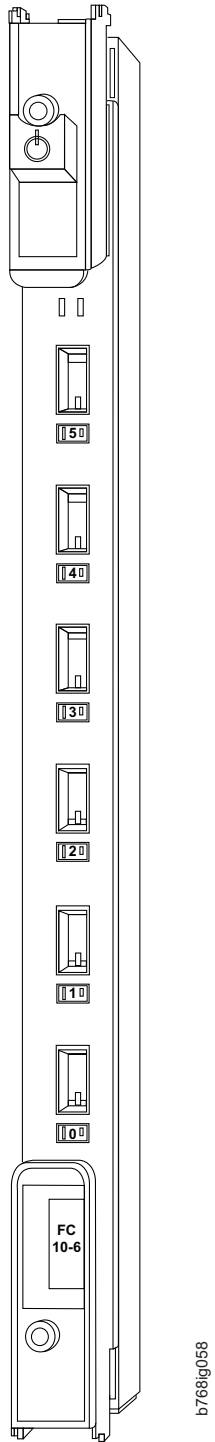

Figure 57. FC10-6 port blade, ports 0-5 (bottom to top)
- Figure 57 on page 158 shows an FC10-6 port blade